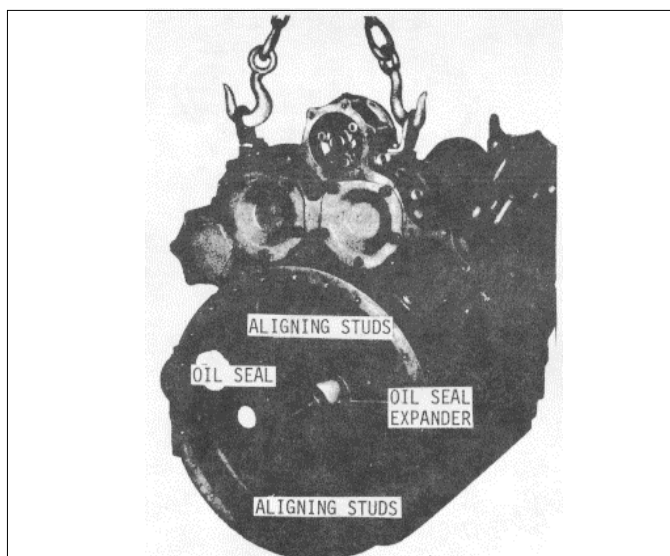

Fig. 1
- (1) Mount the engine on an overhaul stand as outlined in SM1-63-2.0.
- (2) Remove the flywheel housing support brackets attached to the housing and the cylinder heads.
- (3) Remove the accessories attached to the flywheel housing.
- (4) Remove the starting motor (SM1-63-62.0).
- (5) Remove the flywheel (SM1-63-14.0).
- (6) Remove the oil pan (SM1-63-52.0).
- (7) Remove the twelve attaching bolts located in the bell of the housing. Remove one attaching bolt located behind the small hole cover on the right-hand side of the flywheel housing. Then remove the remaining bolts around the upper portion of the housing and the two bolts which go through the rear end plate from the front and thread into the housing. Install aligning studs J 1927-01 (Fig. 1) to guide the housing until it clears the crankshaft during removal.